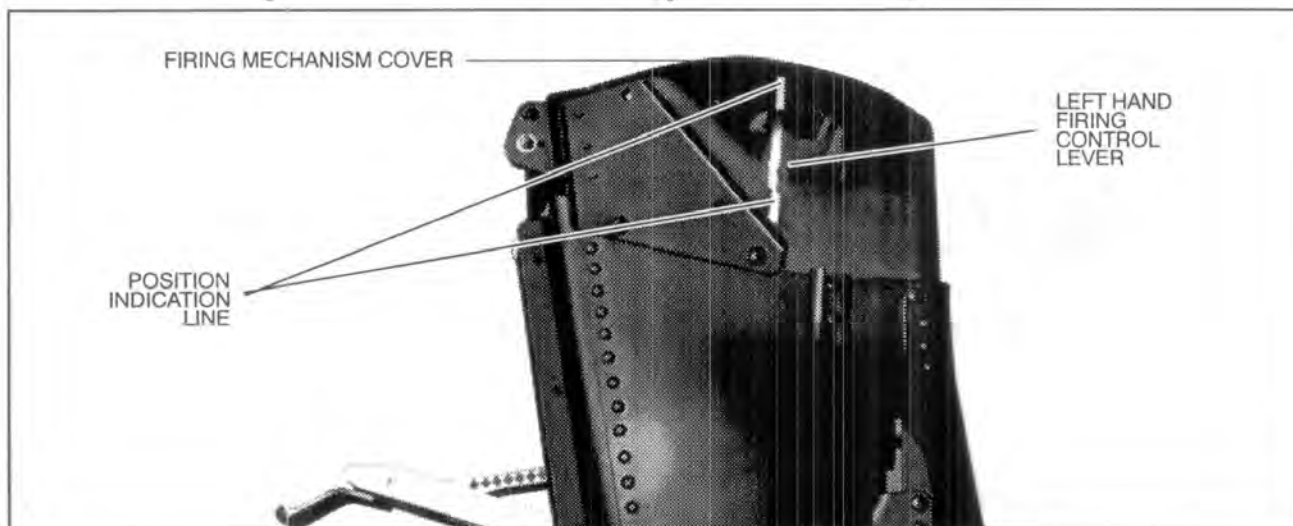
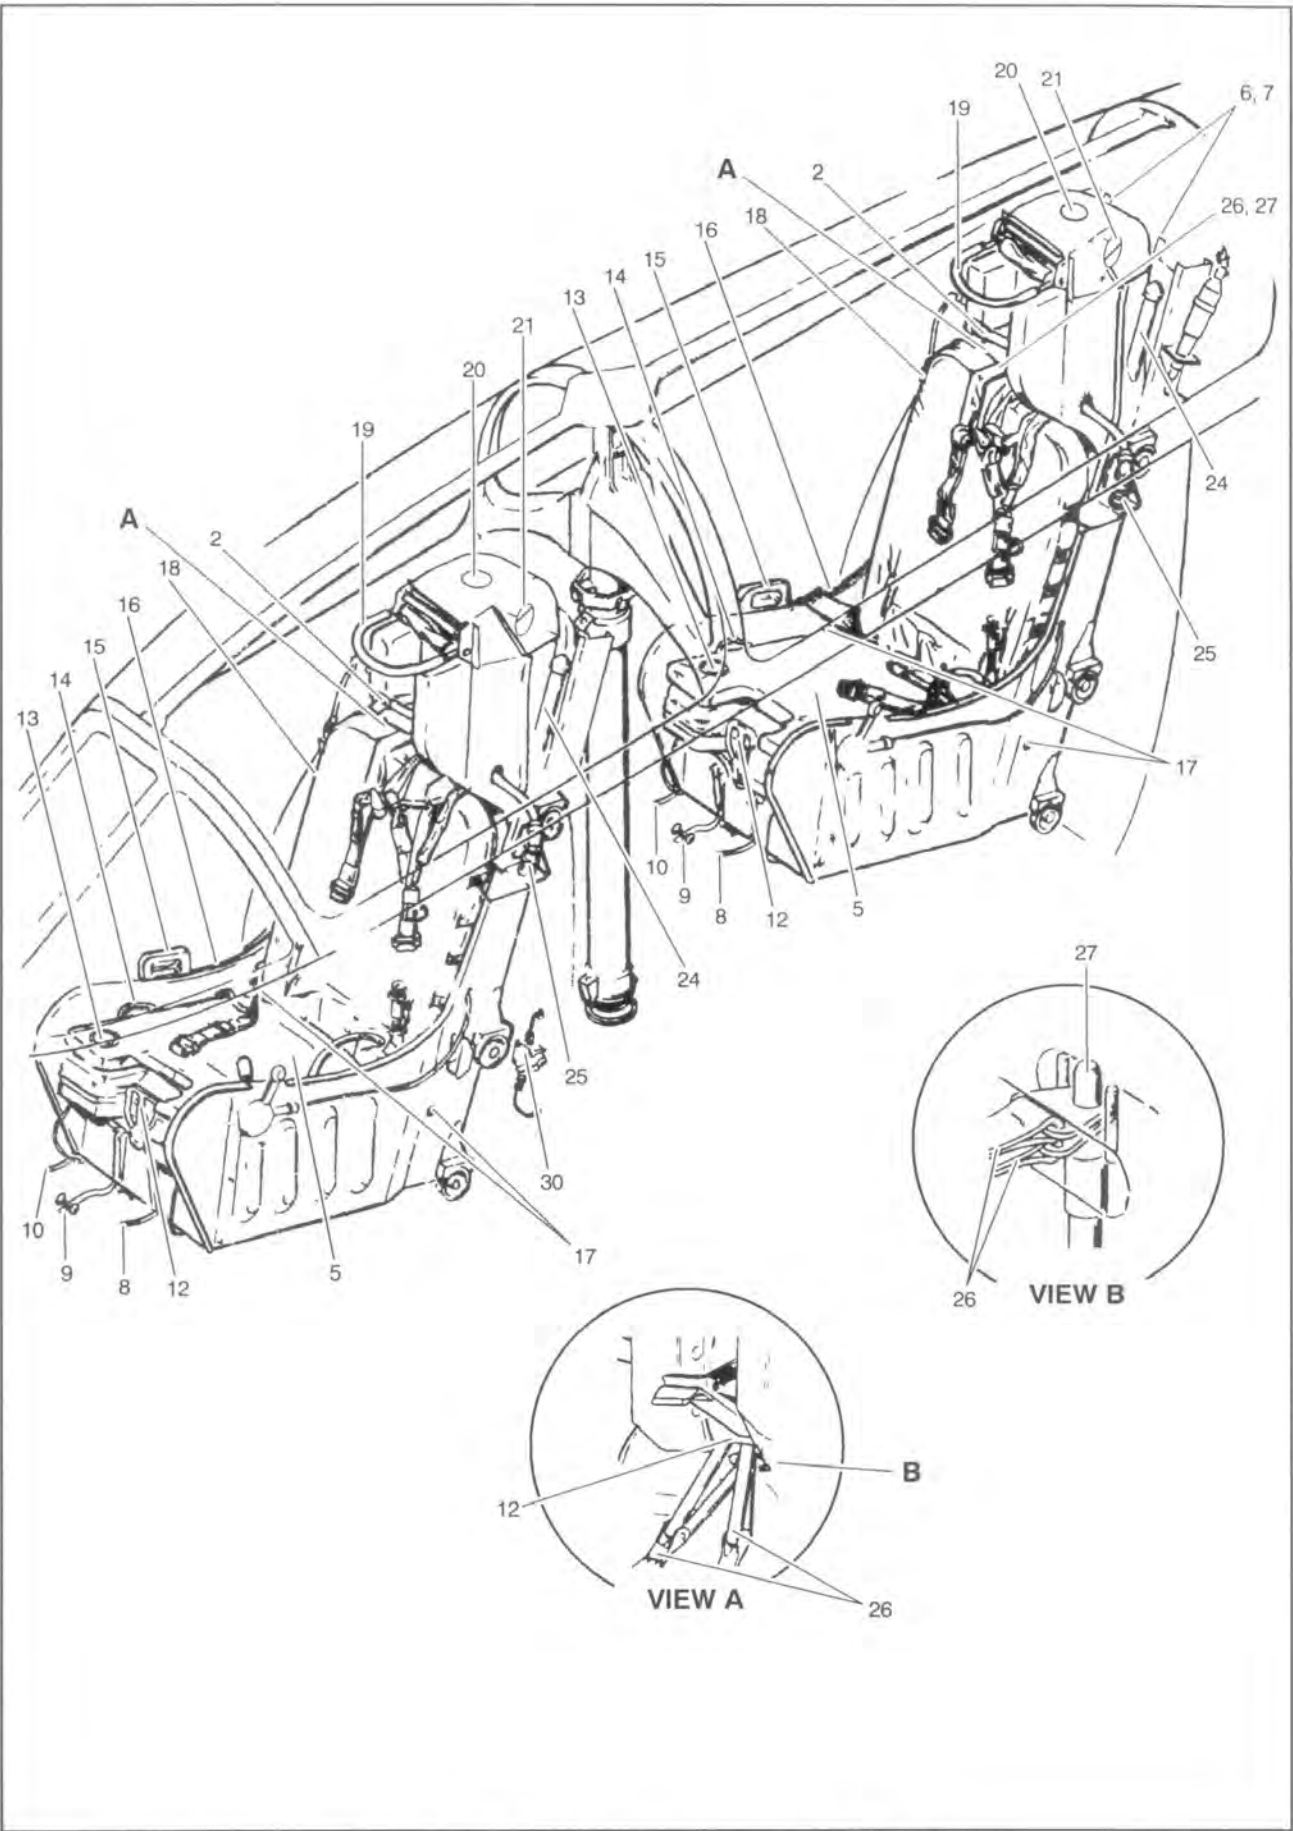

Figure 2-1 Position Indication Line
Figure 2-3 TA-4 1-G3 Ejection Seat Preflight
2.3 The following pre-flight checks are to be carried out on the ejection seat prior to flight. (There are differences between the pre-flights for the A-4 to the TA-4.) (Refer Figure 2-1, Figure 2-2 (3 sheets), and Figure 2-3.)